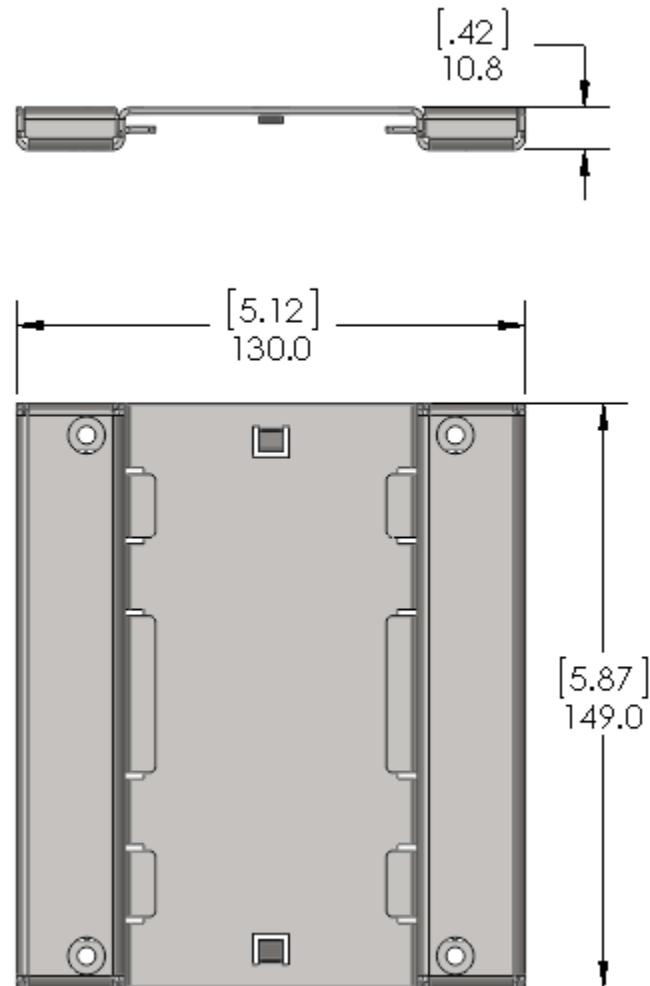

Figure 2 - Quick Release Adapter
**Quick Release Adapter Mount, PN: 310-006028 (Figure 2)**